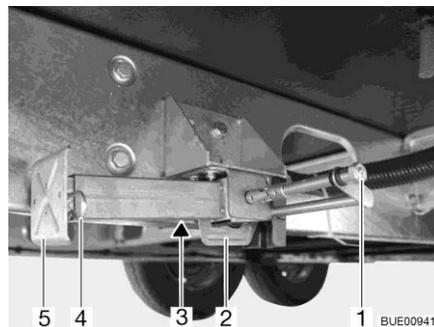

Fig. 58 Steady leg
- Place the socket spanner on the hexagonal nut (Fig. 58,1) and rotate until the steady leg is in a perpendicular downward position.
- If the length of the steady leg can be adjusted, remove the splint (Fig. 58,4) out of the support foot extension (Fig. 58,5).
- Place the socket spanner on the hexagon nut (Fig. 58,1) and rotate until the steady leg is clear of the ground.
- Push in the support foot extension (Fig. 58,5) and insert the splint (Fig. 58,4) in the drilled hole in the support foot extension.
- Rotate the hexagonal nut (Fig. 58,1) until the steady leg has swung upwards and the guide (Fig. 58,2) has reached the very end of the slot (Fig. 58,3).